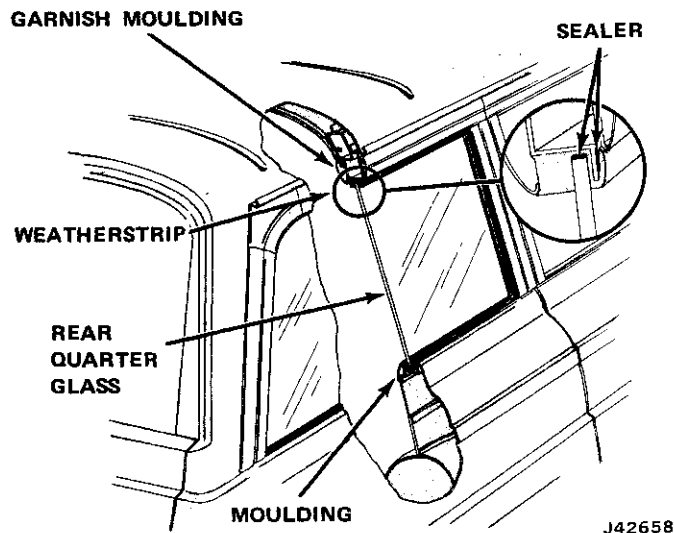

Fig. 3K-2 Rear Quarter Window—Cherokee-Wagoneer
- (1) Before installing glass in weatherstrip, apply a 3/16-inch bead of 3M Windshield Sealer or equivalent in glass cavity completely around weatherstrip using a pressure type applicator (fig. 3K-2).
(2) With glass installed in weatherstrip and before installing glass and weatherstrip into opening, insert a 1/4-inch cord completely around weatherstrip in flange cavity.